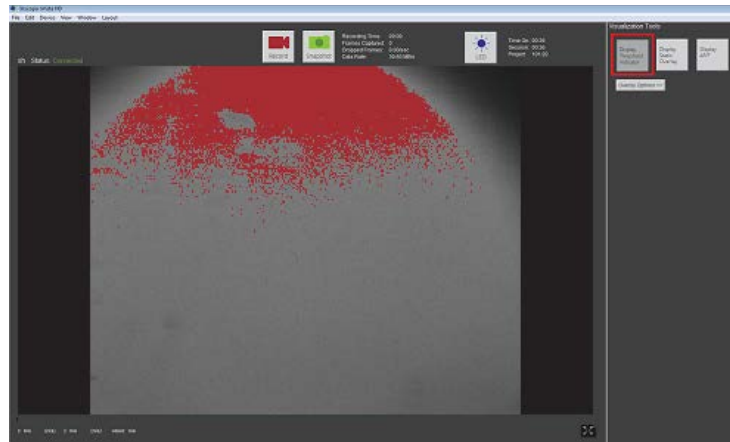

Fig 7-23. Threshold indicator, with saturated pixels displayed
- Threshold Indicator provides a visual indicator of pixel saturation. The color indicative of saturation, and the display color table, can be edited through **Edit > Change Preferences > Display > Color**. This is shown in Fig 7-23.